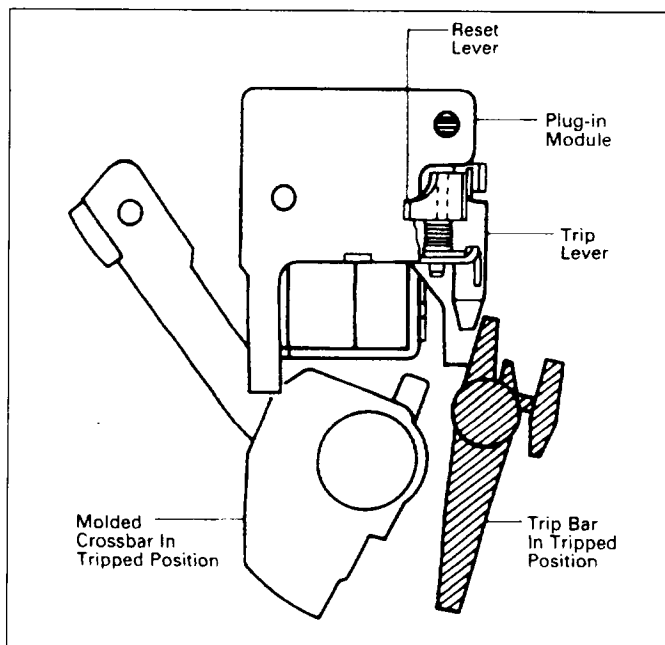

Fig. 2-7. Correct Position for Trip Lever and Trip Bar
- i. Before plug-in module seats fully in mounting slots, press circuit breaker trip bar back against magnet armature, and seat accessory. Make sure LEST trip lever touches flat surface of trip bar (Fig. 2-7) and reset tab is operated by the handle arm.